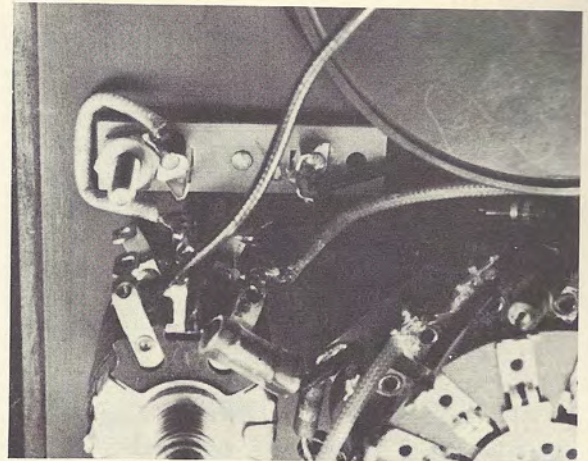

Fig. 12-8
Step 3. Run the wire as shown in Fig. 12-8 and solder it to terminal 2 of potentiometer  $P_1$ . If necessary, unsolder the previously made connection before doing this step.